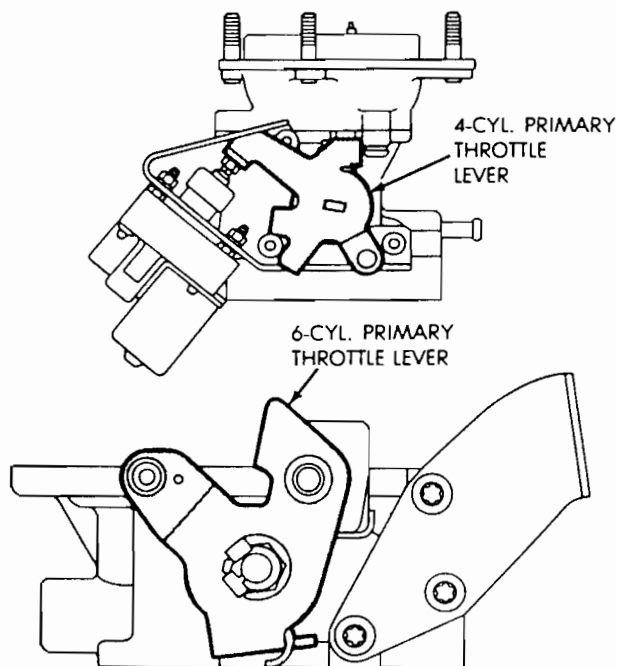

Fig. 30 Rotate Primary Throttle Lever To Wide Open Position
- (3) Rotate primary throttle lever to wide open throttle position (Fig. 30).
- (4) Hold primary throttle lever in wide open position and let cable plunger extend. Release lever when plunger is fully extended. Cable is now adjusted.